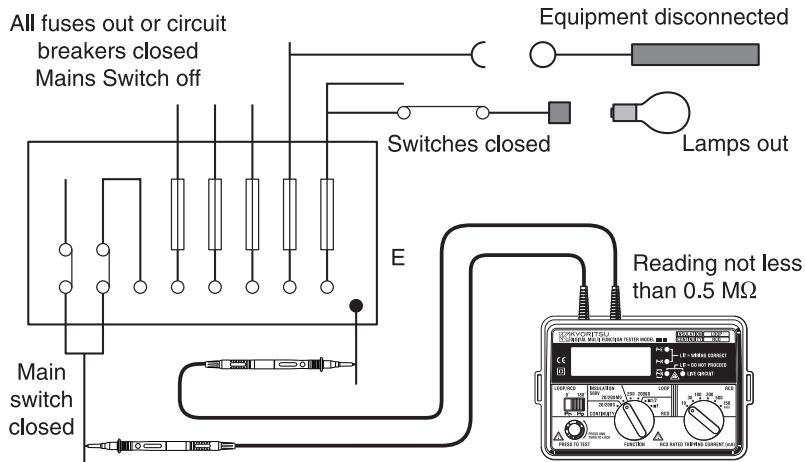

Fig 7
3. Attach the test leads to the instrument and to the circuit or the appliance under test (see Figs 7 & 8)